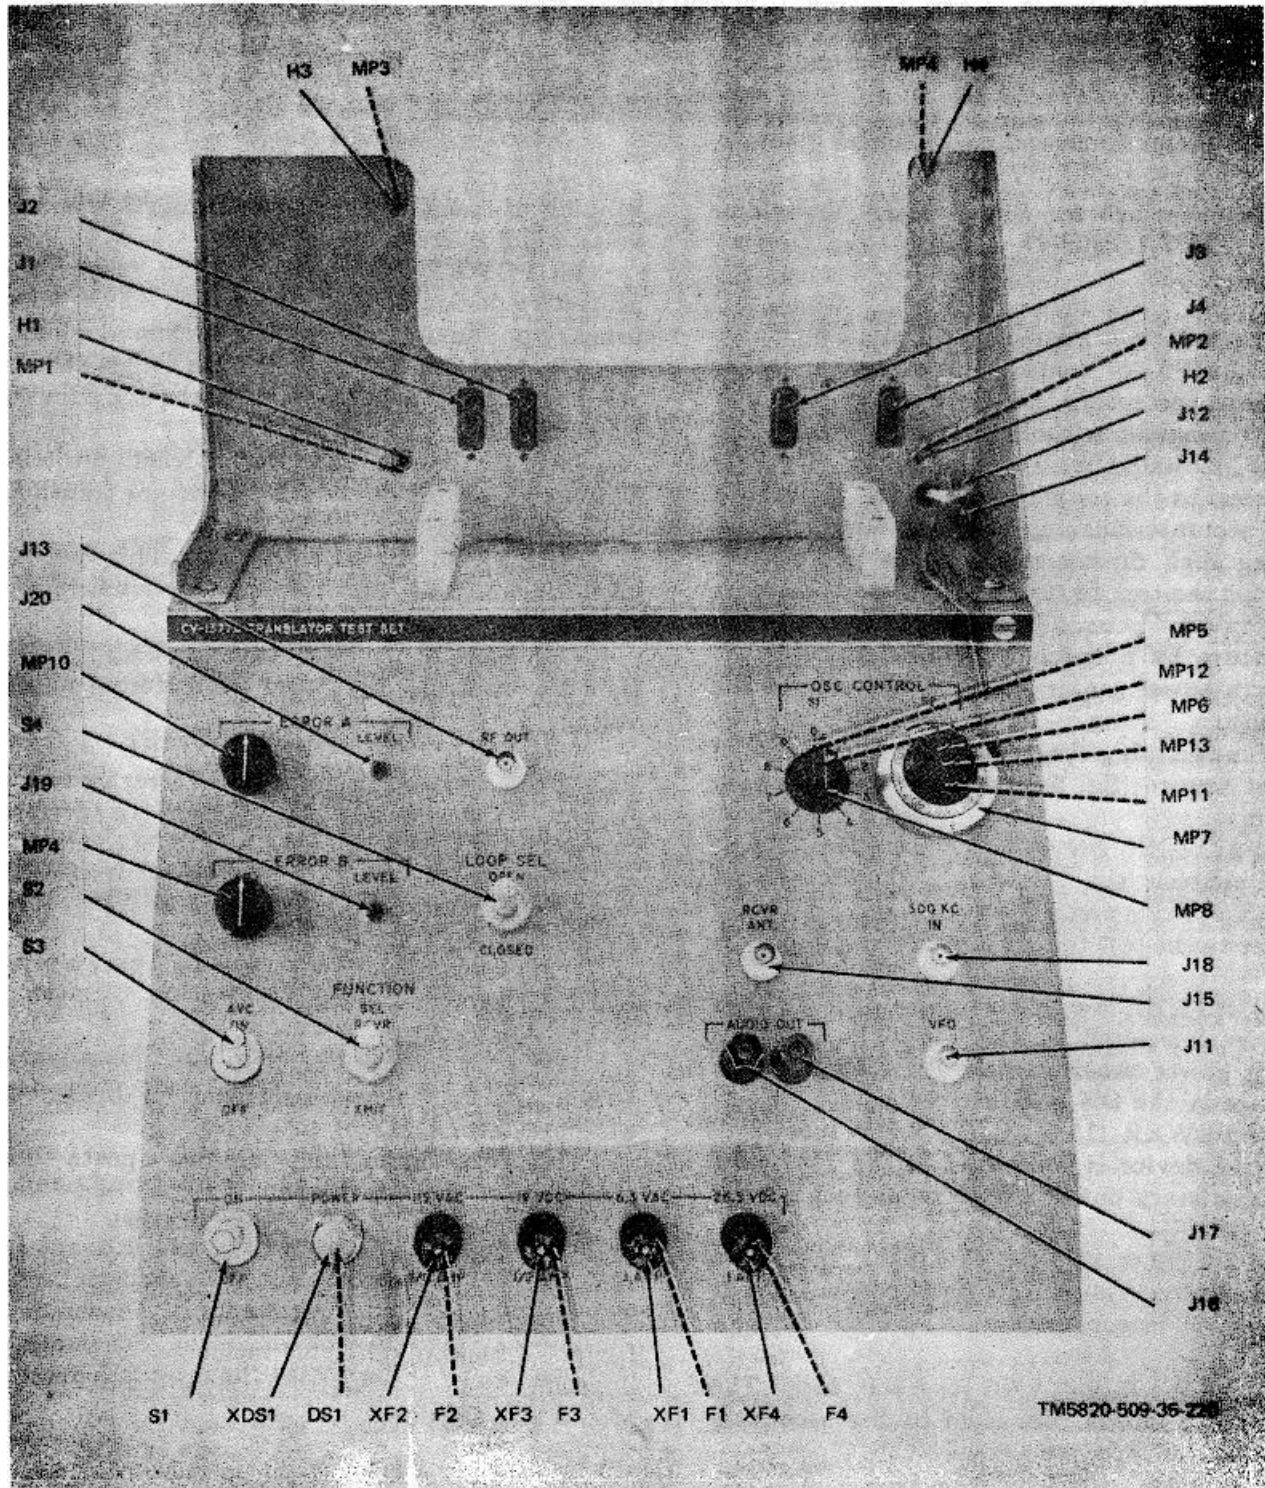

Figure 6-21. Test Fixture for Signal Data Translator CV-1377A/PRC-47, Front View, Parts Location.
(5) POWER 6.3 VAC 1 AM P fuse. This protective device is connected to the secondary winding of transformer T1 and protects this 6.3 volts winding from overload.
(6) POWER 26.5 VDC 1 AMP fuse. This protective device is connected in the +26.5 volts primary power circuit to protect it from overload.
(7) AVC ON-OFF switch. This toggle switch selects a variable negative bias for the avc circuits when placed in the ON position.
(8) FUNCTION SEL RCVR-XMIT switch. This toggle switch selects the receive or transmit mode for the module under test.
(9) ERROR B ADJ control. This potentiometer controls the level of external error voltage B.
(10) ERROR A ADJ control. This potentiometer controls the level of external error voltage A.
(11) LOOP SEL OPEN-CLOSED switch. This toggle switch selects external error voltages A and B in the OPEN position to permit calibration of the CV-1377A/PRC-47 master Oscillator. In the CLOSED position, the error voltages generated by the C-4311/PRC-47 are applied to the master oscillator.
(12) OSC CONTROL S1 switch. This rotary switch selects the proper crystal for operation with oscillator Q20.
(13) OSC CONTROL S2 switch. This rotary switch selects the proper crystal for operation with oscillator Q21.
(14) Test jacks and binding posts are provided for the attachment of signal leads and test equipment and are self-explanatory.
c. The piece parts required for fabrication of the test fixture are listed in the following chart and suggested parts placement is shown in figures 6-21 through 6-23 inclusive. Schematic diagram (fig. 7-17) illustrates the internal circuit of the test fixture.